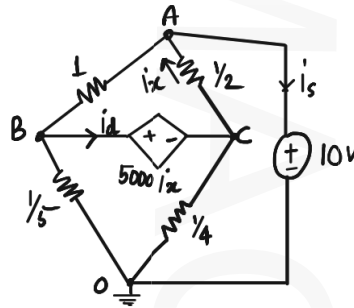

Figure 1: Circuit for Question 11 (a).
- 11 a) For the circuit in Fig. 1, form the Modified Nodal Analysis (MNA) equations and represent them in a matrix format. Assume, if necessary, dummy sources and corresponding additional nodes with respect to controlling currents. 10